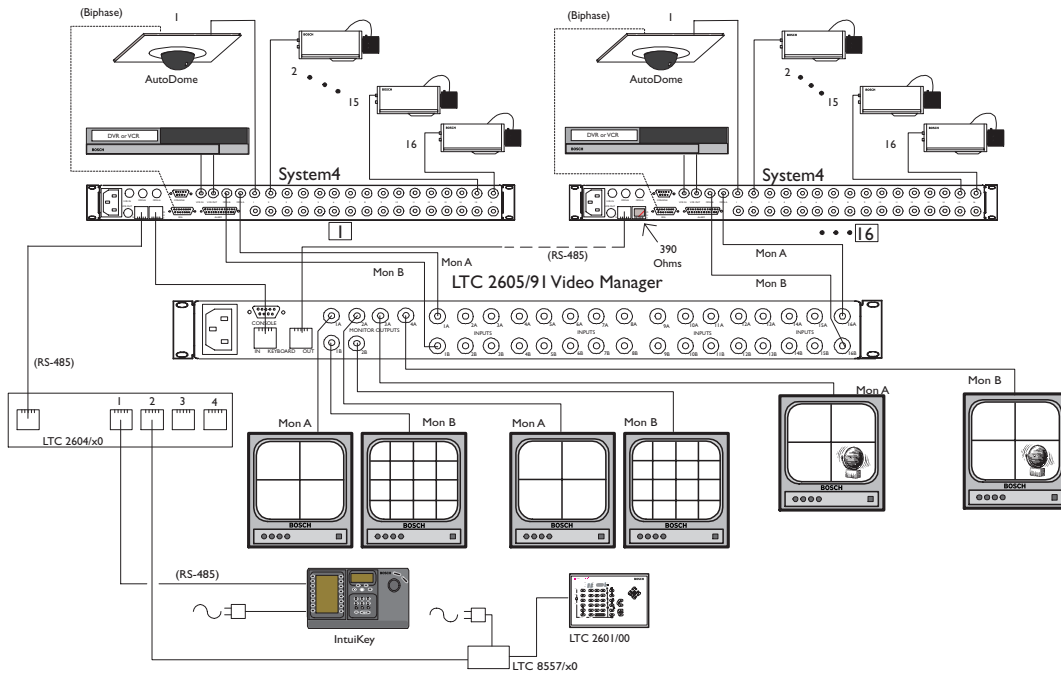

Figure 3 – Video Manager with System4 Multiplexers, an IntuiKey Keyboard, and a LTC 2601/00 Keyboard, Including Alarm Monitor Pair
- Two Keyboard Configuration using LTC 2604 Keyboard Expander (Reference Figures 3 and 4 in Section 4: Installation Diagram): The video from Monitors A and B of the device controlled by the first keyboard is displayed on outputs 1A and 1B of the Video Manager, respectively.
*Functional Notes for Figures 3 & 4:*